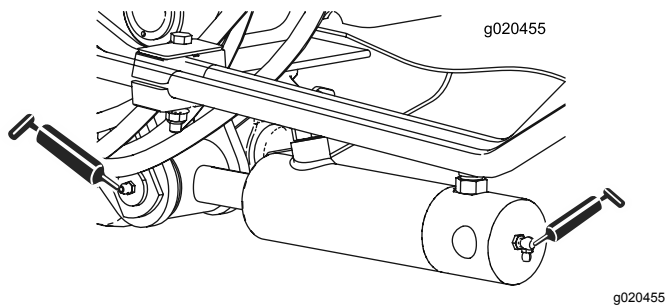

Figure 63
- Lift arm cylinder bushings (2 each) (Figure 63)